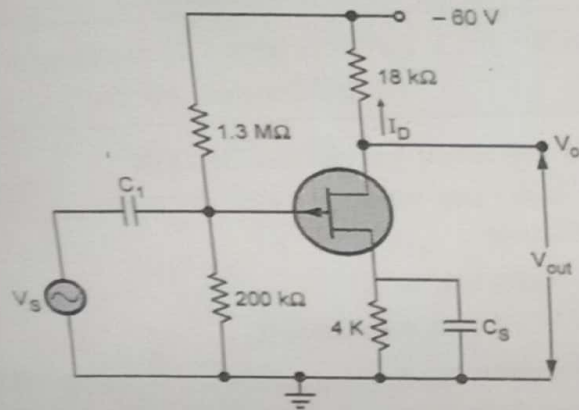

Fig. Q.25.1
Q.25 For the circuit shown in Fig. Q.25.1, the FET has $V_P = 4 \text{ V}$, $I_{DSS} = 4 \text{ mA}$